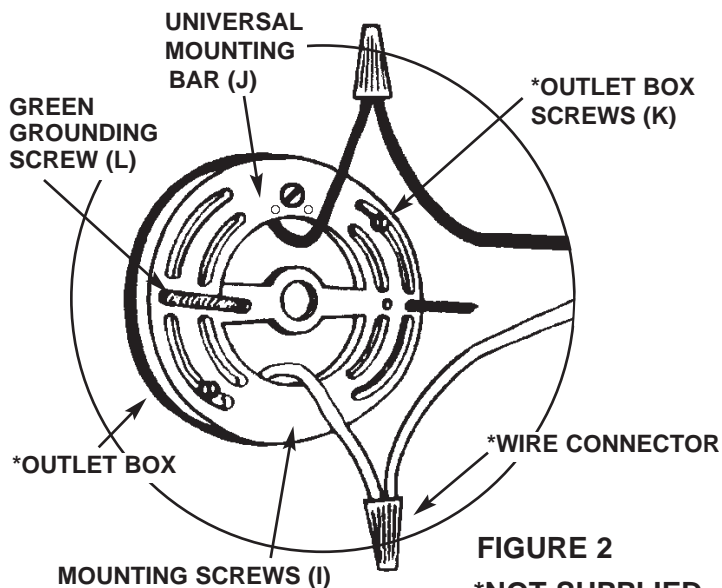

FIGURE 2
**GROUNDING INSTRUCTIONS:** The green grounding screw (L) is to be inserted into the hole with two raised dimples provided on the universal mounting bar (J). Wrap the ground wire from the fixture (if supplied) and the ground wire from the outlet box (bare metal or green insulated wire) around the green grounding screw (L) on the universal mounting bar (J). If uninsulated ground wire is on the universal mounting bar, connect the ground wire from the fixture (if supplied) and the outlet box to it using a small wire connector (not supplied) (See Figure 2).